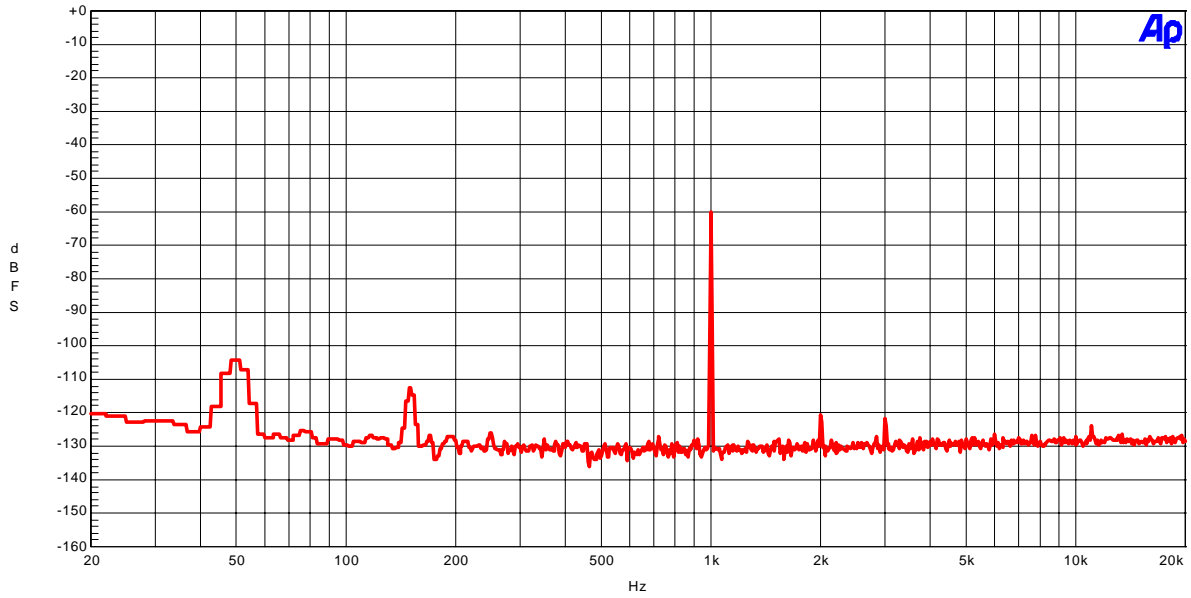

Figure 8. FFT (fs=48kHz; 1kHz, -60dBFS input)
- Figure 8. FFT (1kHz, -60dBFS input)